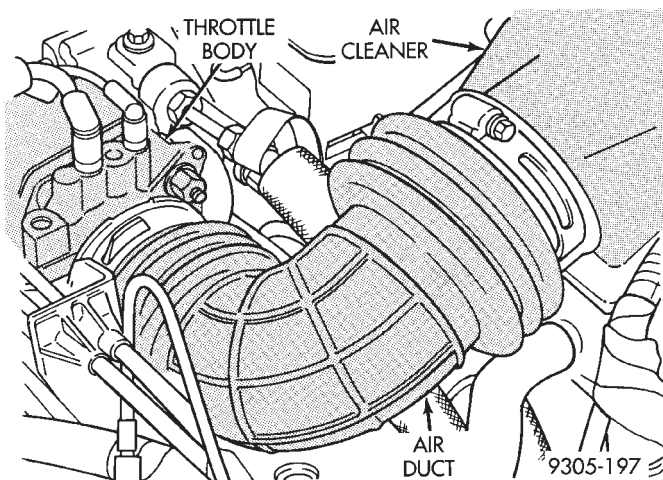

Fig. 16 Air Duct (Typical)
(2) Remove and then reinstall one filler cap from brake fluid reservoir on hydraulic assembly.
(3) Remove the air duct going from air cleaner assembly to throttle body (Fig. 16).